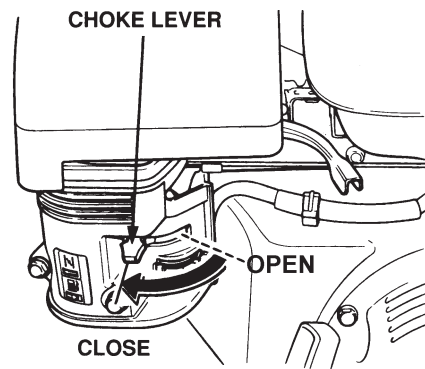

Figure 26. Choke Lever
3. Place the **Choke Lever** (Figure 26) in the "CLOSED" position.
6. If the engine has started, slowly return the choke lever (Figure 26) to the **"OPEN"** position. If the engine has not started repeat steps 1 through 5.